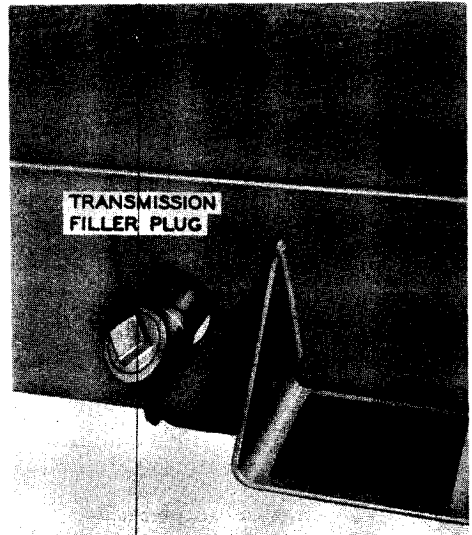

Figure 24. Transmission
8. After the engine has been running at idling speed for a few minutes, add enough Type C Transmission Fluid to bring the oil up to the top level plug opening, Figure 24.